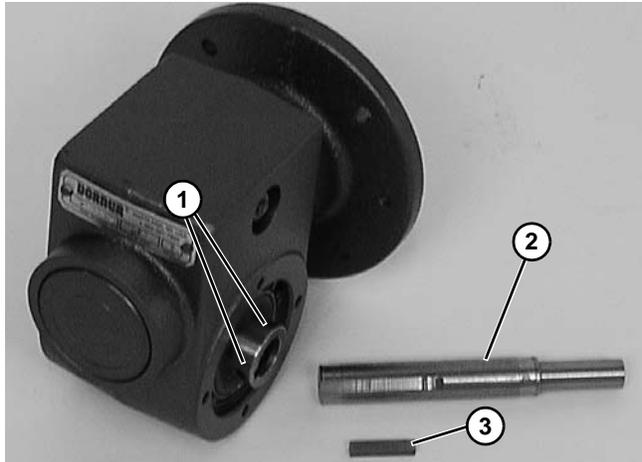

Figure 24
1. Loosen six (6) set screws (**Figure 24, item 1**). Remove drive shaft (**Figure 24, item 2**) and key (**Figure 24, item 3**).
3. Replace the original shaft components into new gear reducer see (**Figure 24**).